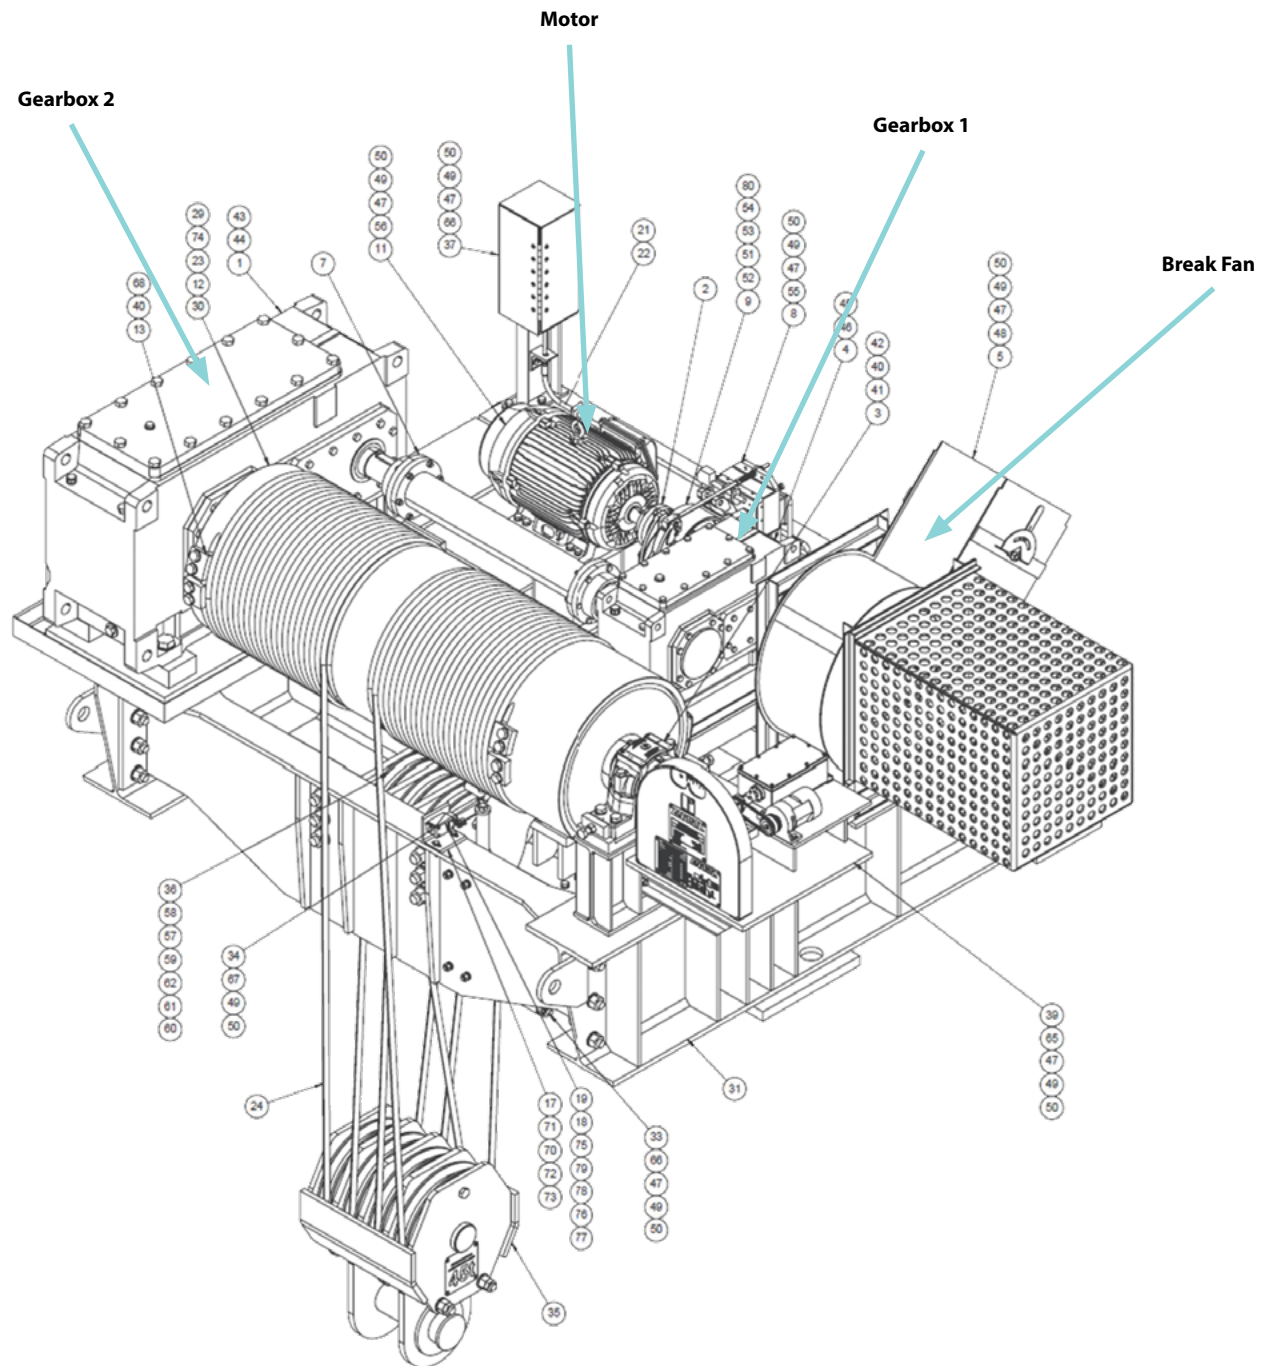

Figure 1: Hoist Assembly Drawing
A new headgate hoist was installed as part of a refurbishment of a hydro generator. As part of the commissioning, the Machine Dynamics (MD) group was asked to monitor the casing vibrations of the entire train. The hoist consists of a 1200 RPM motor, two gearboxes, a break fan, and the main drum. Figure 1 is the assembly drawing of the hoist. Factory acceptance test (FAT) vibration data did not indicate any issues. MD installed velometers and accelerometers on the motor, first gearbox and the break fan to measure casing vibration.